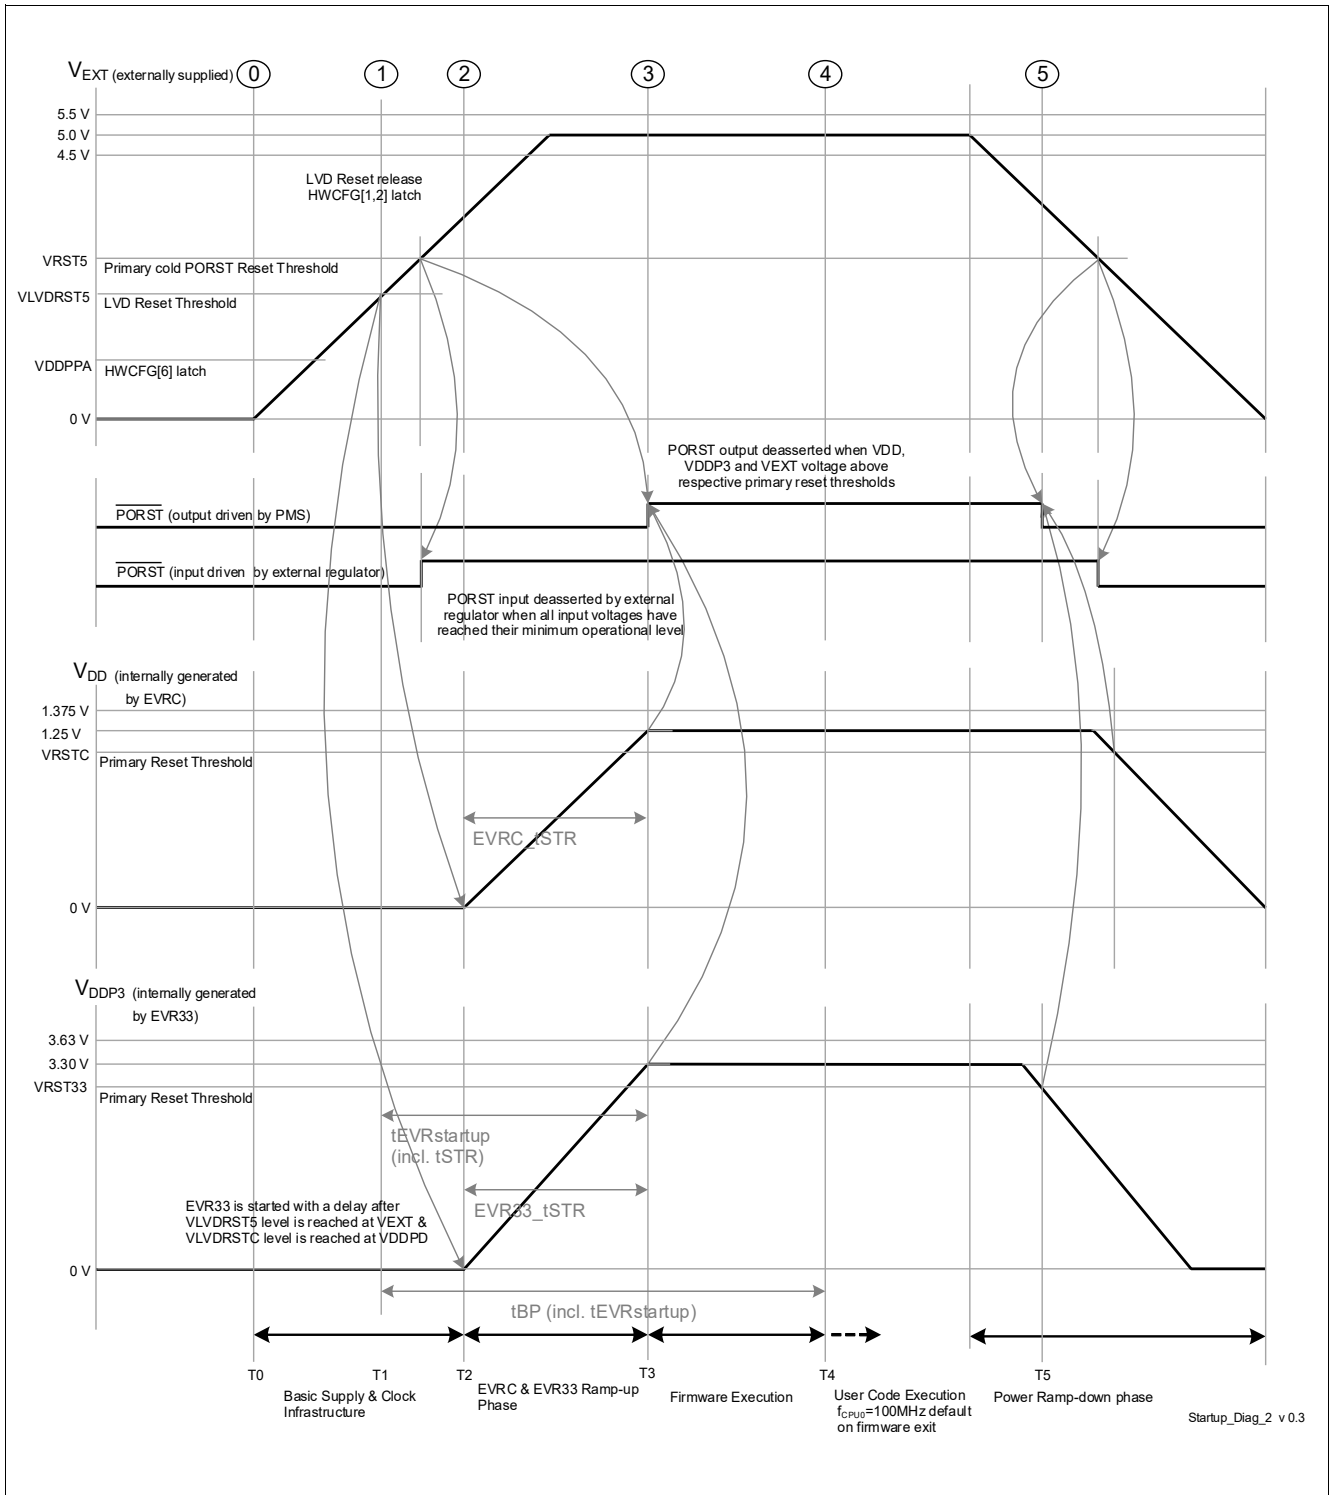

Figure 3-3 Single Supply mode (a) - V_{EXT} (5 V) single supply
- The power sequence as shown in **Figure 3-3** is enumerated below